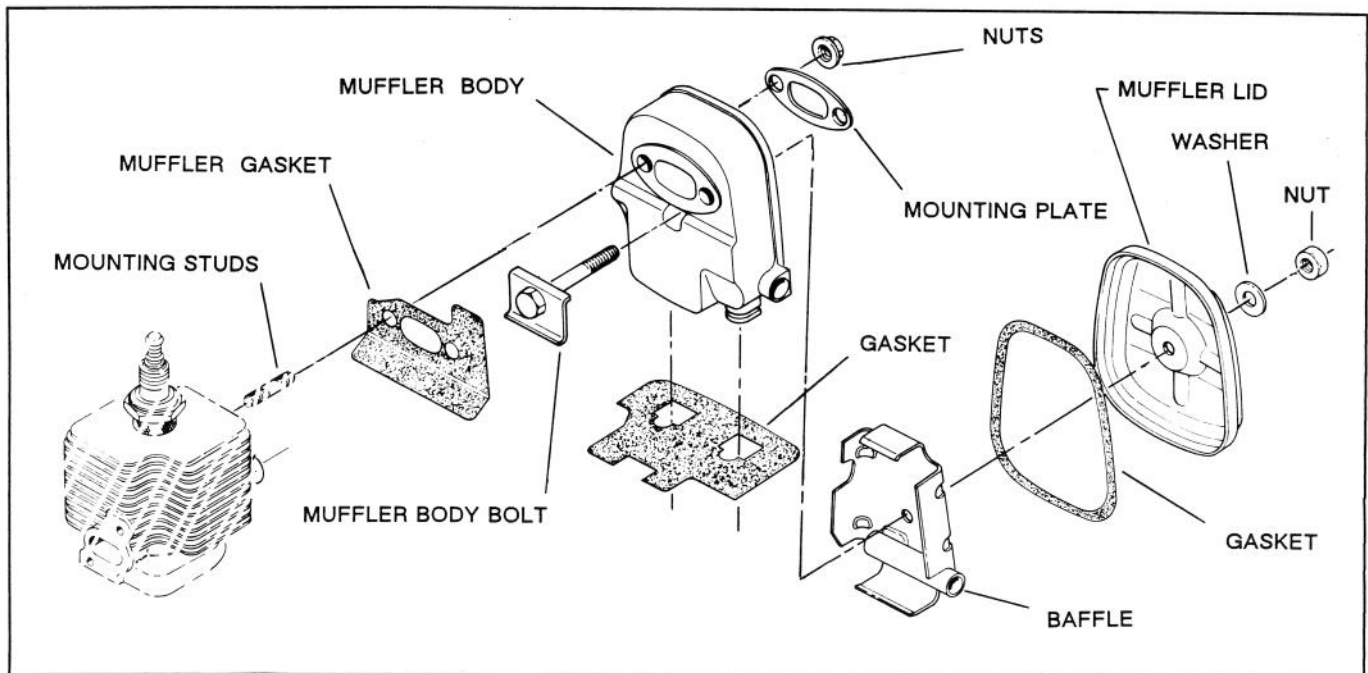

Figure 1
1. Remove (1) screw and loosen (1) screw securing muffler cover to trimmer.
2. Remove washer and nut securing muffler lid, gasket and baffle to muffler body (Fig.1).
3. Remove (2) nuts and mounting plate securing muffler body to trimmer (Fig.1). Remove muffler body, muffler body bolt and gaskets.